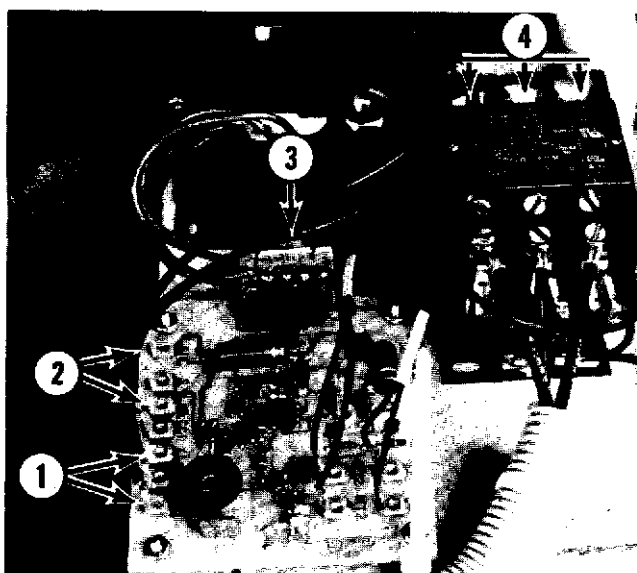
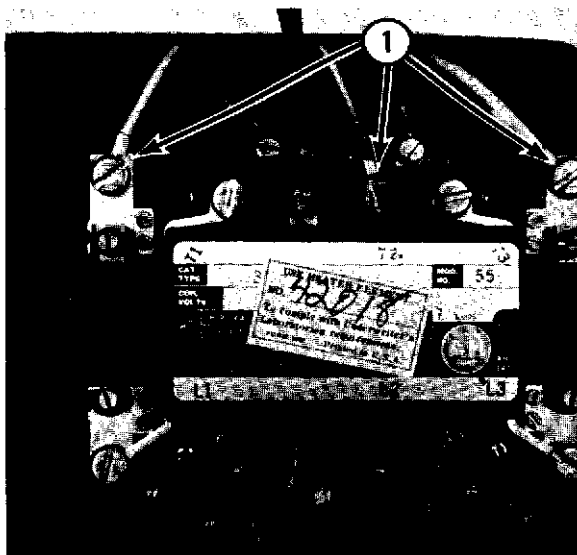

Fig. 16-2
Fig. 16-3
- (1) Check for 120VAC (105 to 130VAC) between terminals X1 and X2 (1, Fig. 16-2) on the motor protector board.
- (2) Check for 20VAC (18 to 22VAC) between terminals LX1 and LX2 (2, Fig. 16-2) on the motor protector board.
- a. Disconnect the power cord, unplug the power input board (3, Fig. 16-2) and check the fuse (3FU) on the power input board with an ohmmeter.
- A. Start the mixer and test the voltage on the load side of the contactor (4, Fig. 16-2) solid state mixers and (1, Fig. 16-3) non solid state mixers, between terminals:
- C. Clamp the amp tester around motor lead T1. (See 4, Fig. 16-2 if solid state or 1, Fig. 16-3 if non solid state.)